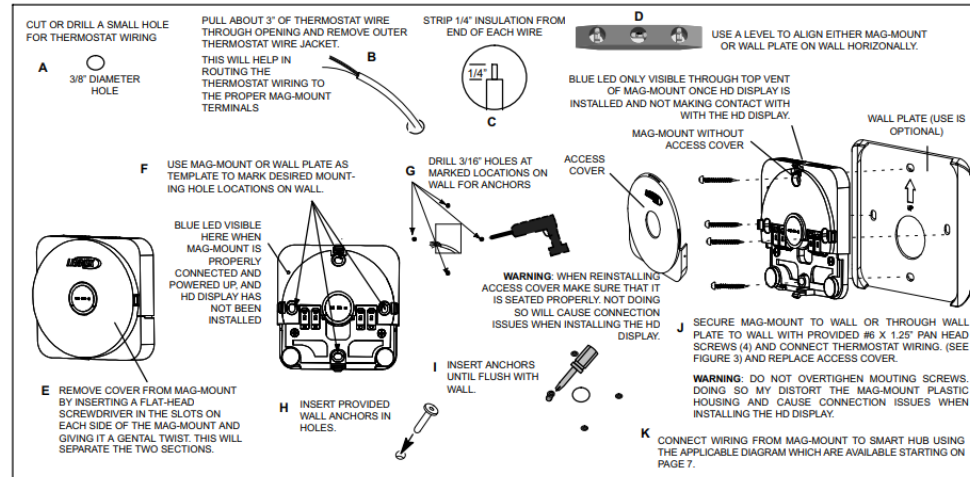

Figure 2. Mag-Mount Installation
2. Install Mag-Mount in desired location away from direct sunlight or any discharge vents. Use the procedures provided in figure 2, steps A through J.
LED: A blue LED is visible on the front of the Mag-Mount when it is connected, powered up, and the HD Display has not been installed (see figure 2, step F) or through the top vent of the mag-mount near the top-left corner. (see figure